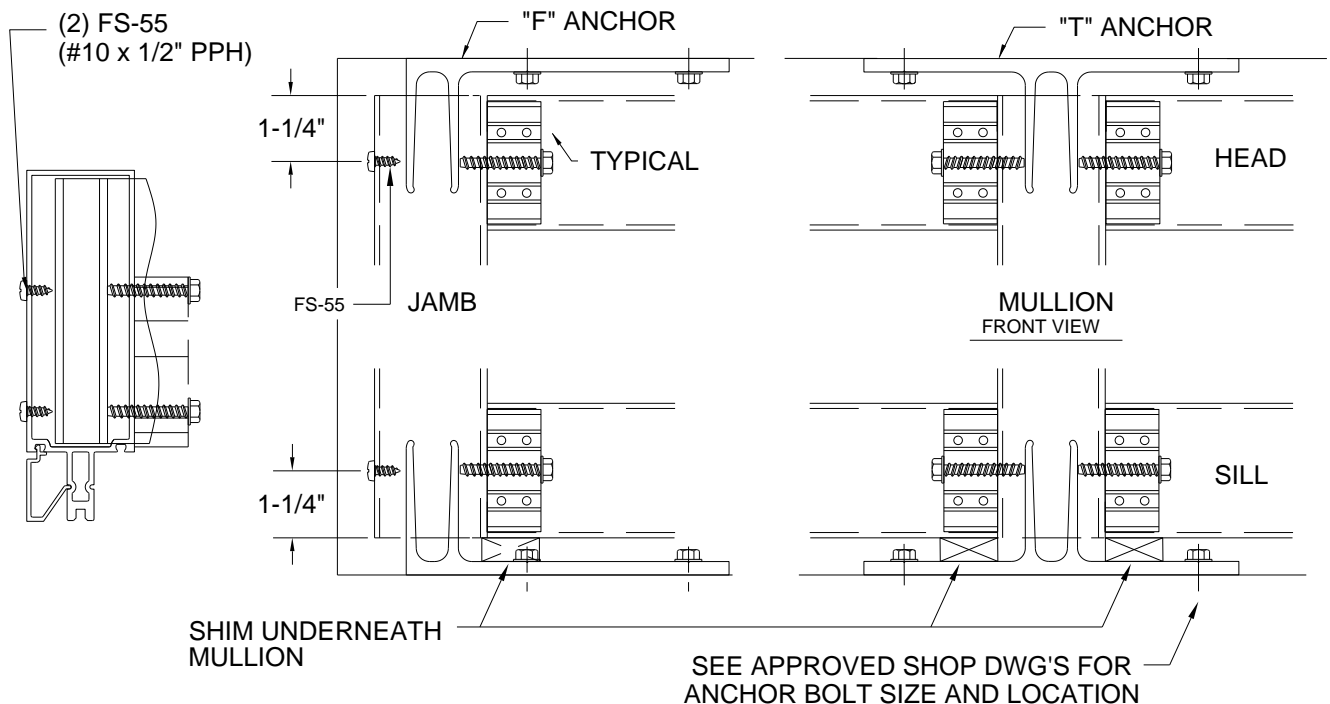

Figure 11: Head & Sill Anchors
- 7.2 If using "F" or "T" anchors, slide anchors into top and bottom of vertical mullions. The anchors are designed to clear the shear block fasteners. See Figure 11.
- 9.1 Install "F" or "T" anchors at the sill condition prior to setting mullions, see *Figure 11*. Each anchor must be anchored with a minimum of two anchor bolts. See approved shop drawings for bolt size and location.
- 9.7 Slide "F" or "T" anchors into top of upper-most mullions prior to erecting. The "F" or "T" anchors are designed to clear the shear block fasteners. See *Figure 11*. Attach "F" or "T" anchor to building condition.